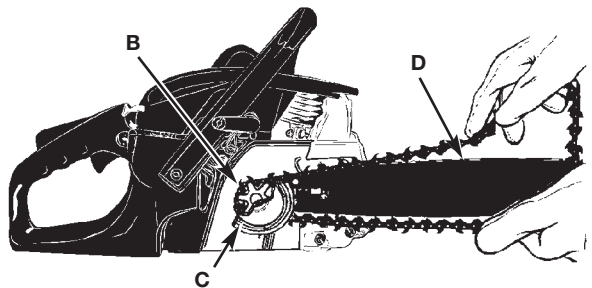

Fig. 27
2. Slip the chain around the sprocket (B) behind the clutch (C). Make sure the links fit between the sprocket teeth (Fig. 27).
3. Guide the drive links into the groove (D) and around the end of the bar (Fig. 27).